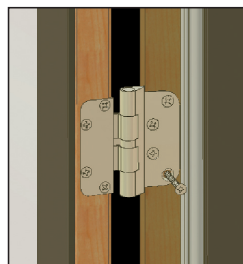

FIG. 21
- A) Apply the supplied #12 x 2-1/4" screws through each hinge securing the hinges and frame to the rough opening. Additional shims are required behind each hinge. (Fig. 21)